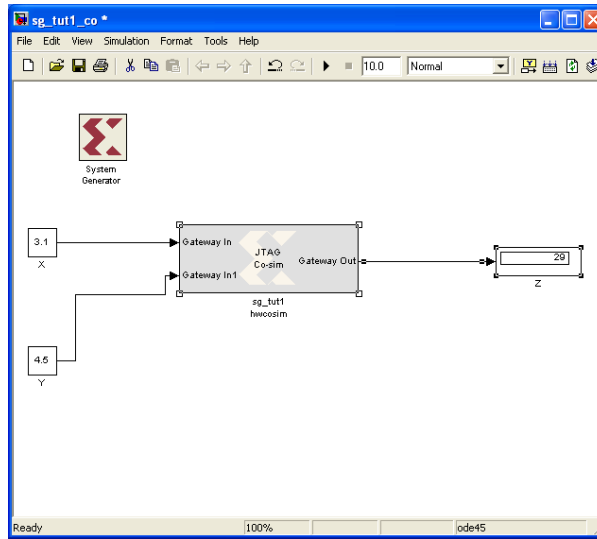

Figure 17: Verifying the Results for HW/SW Co-Simulation
- After the simulation is completed the results should be displayed as shown in Figure 17. We can verify the results by comparing the simulation output to the expected output (the expected output is **29**) as shown in Figure 17.